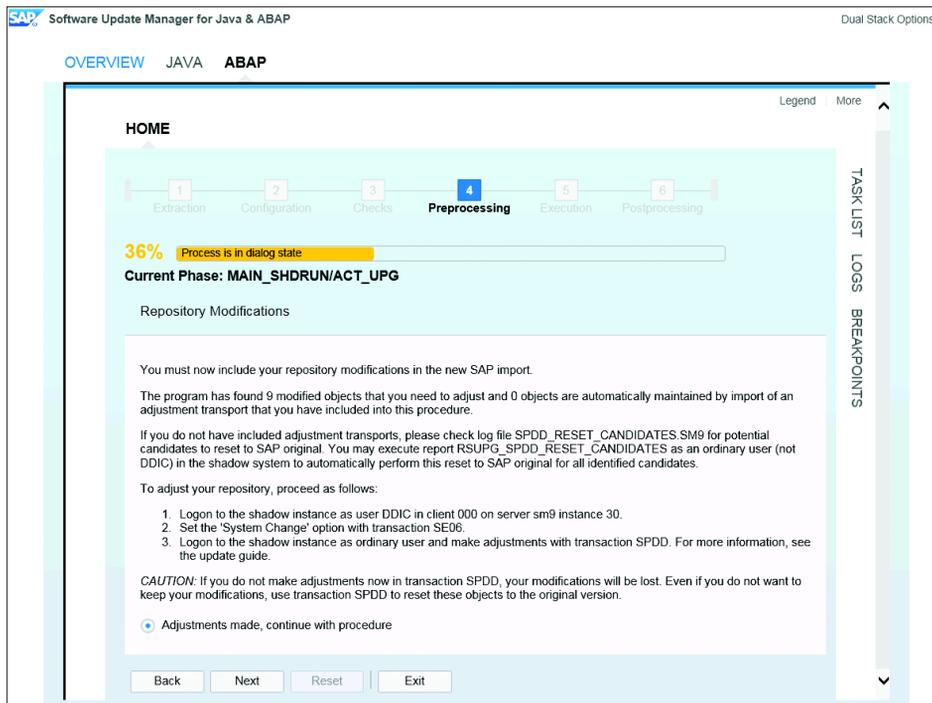

Figure 62 Repository Modification Adjustment Request Task
9. The REPOSITORY MODIFICATIONS task involves any SPAU and SPDD modification adjustments in the ABAP shadow instance before proceeding. Log on to the shadow instance in client 000 as user DDIC and adjust the modifiability settings in Transaction SE06 to ensure all areas are modifiable. Then, create a regular user to log on to the system to complete the modifications. Depending on the modifications, you should consult a developer to determine the best course of action. Click NEXT when finished (see Figure 62).